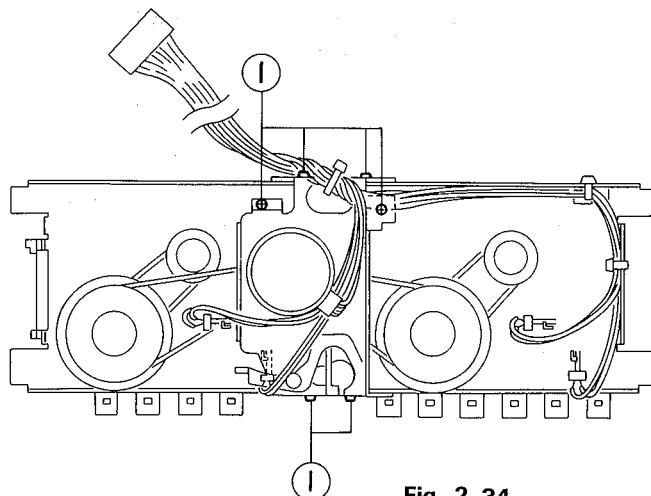
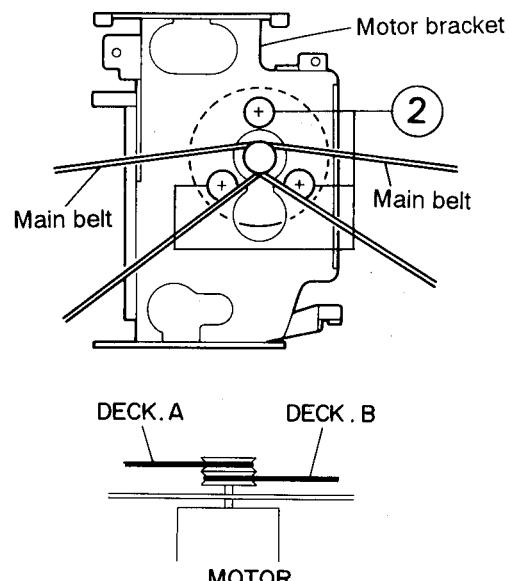
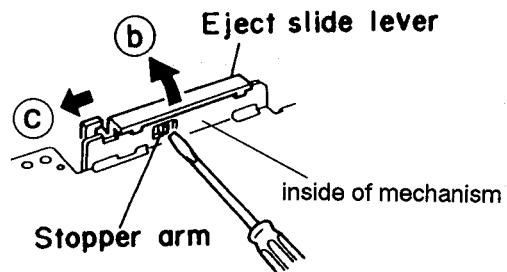
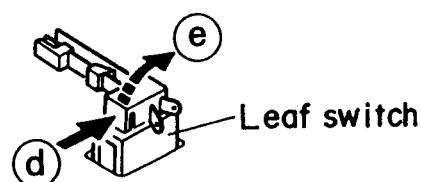

Fig. 2-34
Fig. 2-35
Fig. 2-36
Fig. 2-37
■ Capstan motor (Fig. 2-34, Fig. 2-35)
4. Remove six screws ① retaining the motor bracket from the back of the cassette mechanism.
6. Remove six screws ② retaining the Capstan motor from the back of the cassette mechanism.
■ Eject slide lever (Fig. 2-36)
1. Place the cassette mechanism back side frontward and disengage the stopper arm ⑤ of the Eject slide lever by pressing it inwards through the opening of the chassis with a small screwdriver as shown in Fig. 2-36.
2. Disengage the Eject slide lever in the direction of arrow ⑥.
■ Leaf switch (Fig. 2-37)
Press the leaf switch in the direction of the arrow ⑦ and then remove it in the direction of the arrow ⑧ referring to Fig. 2-37.